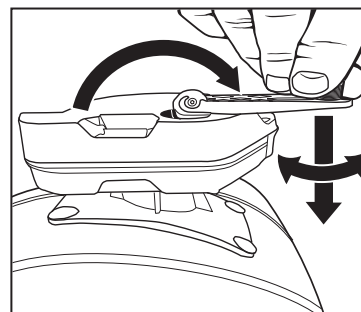

Fig. 3.
- Flip the adjustment crank out (see Fig. 3)